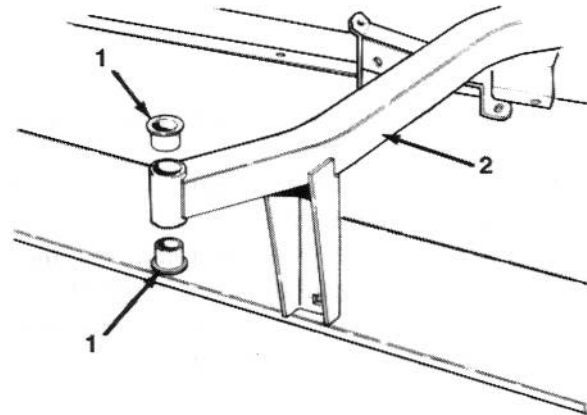

Figure 12
4. Mount a belt on lower pulley groove of left spindle, slide belt under belt idler mount plate and install around center spindle pulley. Tension belt by levering idler pulley against belt and tighten idler pulley flange nut (Fig. 12).